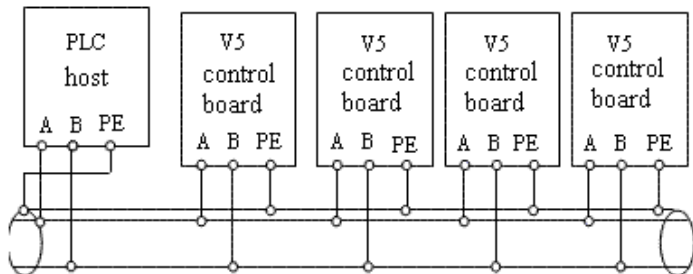

Fig. 2-10 Connection of PLC and inverters
- More than one inverter can be connected through RS485 with the PLC(or PC) as the host, as shown in Fig.2-10; Also, you can select one inverter as host and the other inverters as slaves, as shown in 2-11. Because with the inverter's number increasing, the communication system will be interfered easier, the following wiring is recommended.